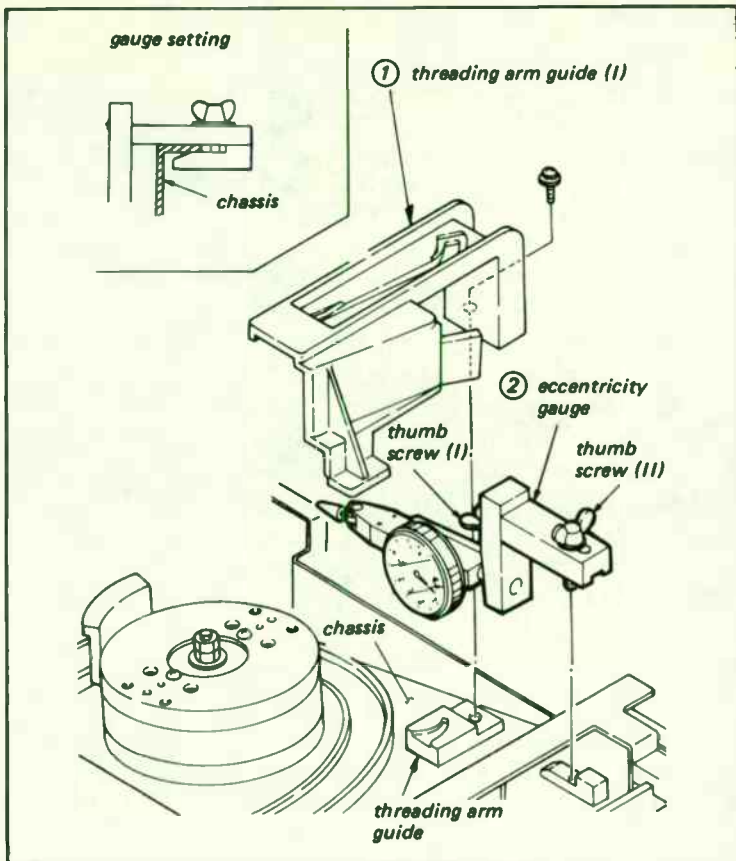

Fig. 5-24. Drum head eccentricity adjustments.
■ Remove the threading arm guide (1).
■ Install eccentricity gauge with the thumbscrew (II) so that its probe contacts the head disc circumference about 2 mm below the top edge of the video head disc assembly (3). Refer to Fig. 5-24.
■ Rotate the ac motor slowly counterclockwise. Adjust the video head disc assembly (3) eccentricity so that the gauge reading